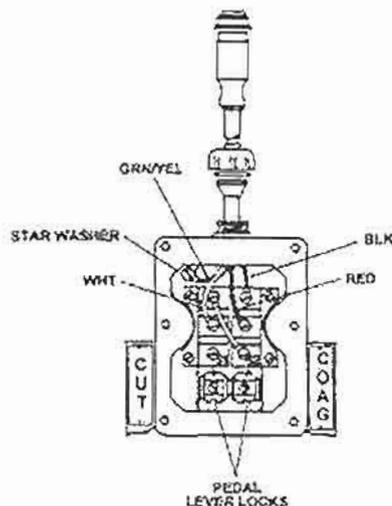

Figure 3-37. Pedal movement adjustment.
- (3) *Pedal movement adjustment (fig 3-37).*
(e) Reinstall the two brass slotted screws to refasten the two electrical wire terminals to the micro-switch. Check for the correct connection of the wires. (Refer back to figure 3-37.)
(j) Reinstall the two brass slotted screws fastening the two electrical wire terminals. Check for the correct connection of the wires. (Refer back to figure 3-37.)